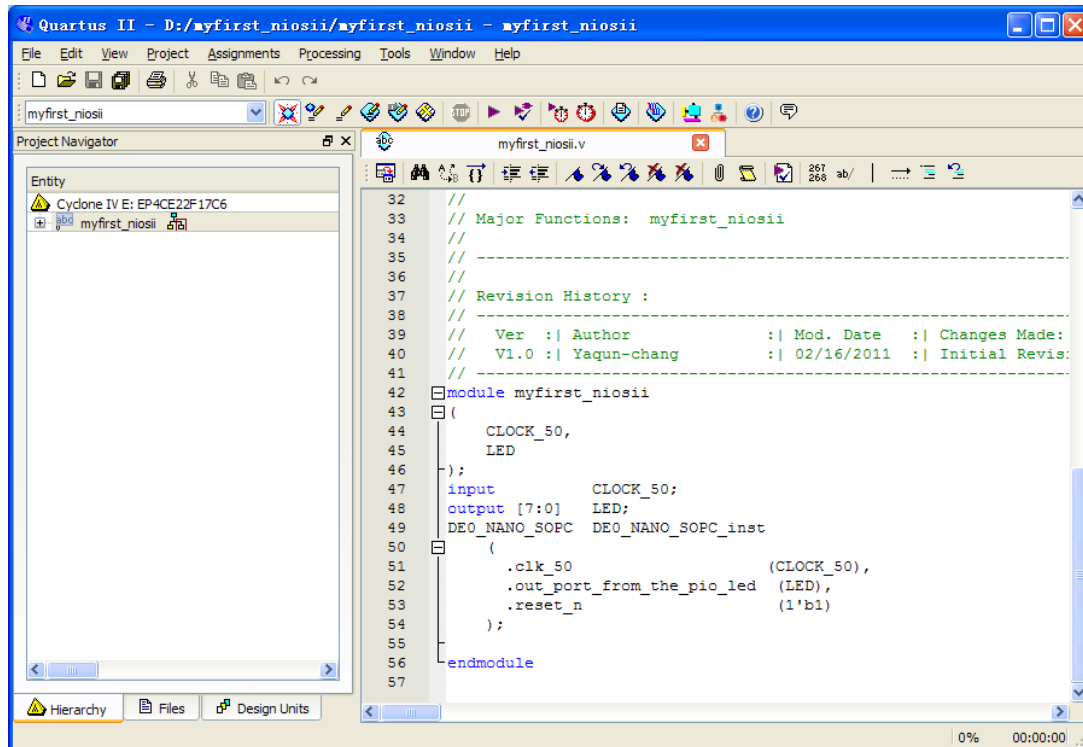

Figure 7-43 Input verilog Text
34. Type the following Verilog into the blank file, as shown in **Figure 7-43**. The module **DE0\_NANO\_SOPC** is the system created by SOPC Builder and its Verilog can be found in the **DE0\_NANO\_SOPC.v** file, as shown in